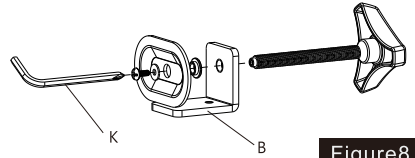

Figure8
3. Disassemble the "C" Clamp (B) with a phillips screwdriver and remove the bolt, see Figure 8.